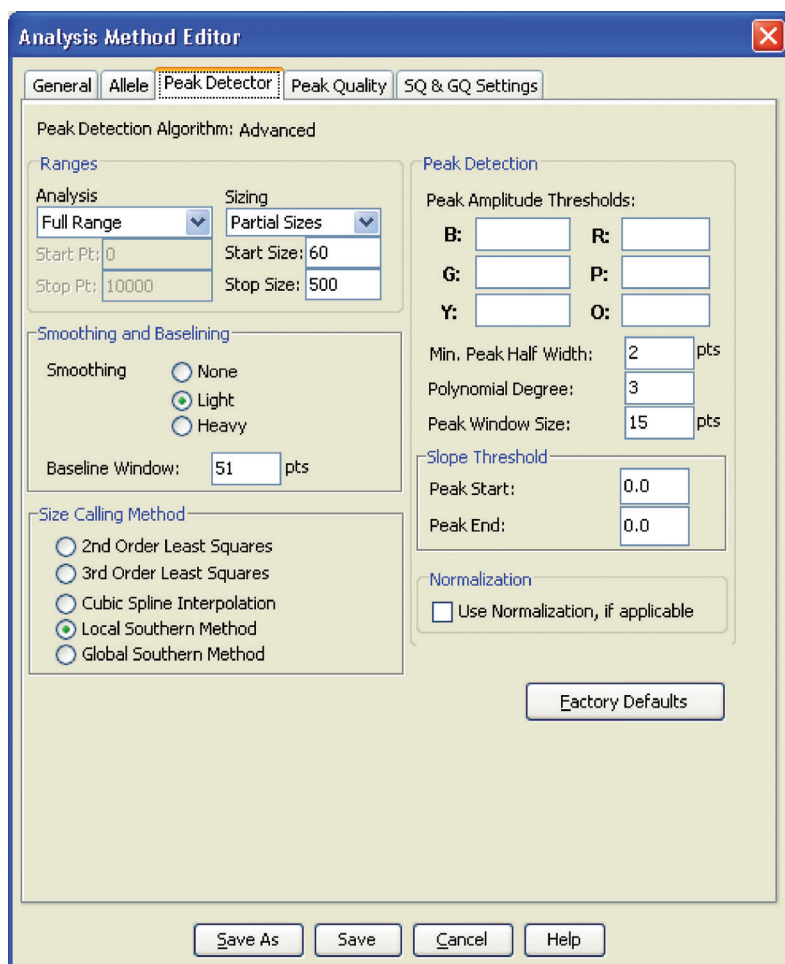

Figure 23. The GeneMapper® ID-X Peak Detector tab.
10. Select the 'Peak Detector' tab (Figure 23). You will need to optimize these settings. In-house validation should be performed.
9. Select the 'Peak Detector' tab (Figure 23). You will need to optimize these settings. In-house validation should be performed.